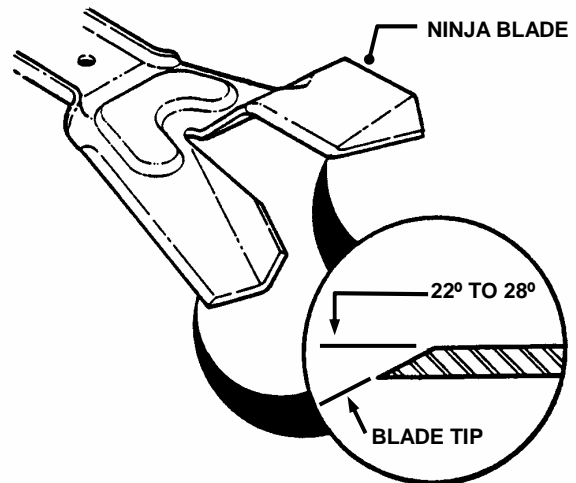

FIGURE 4.16
5. Sharpen all cutting edges of the Ninja recycling blade at an angle of 22 to 28 degrees for optimum performance. See Figure 4.16.